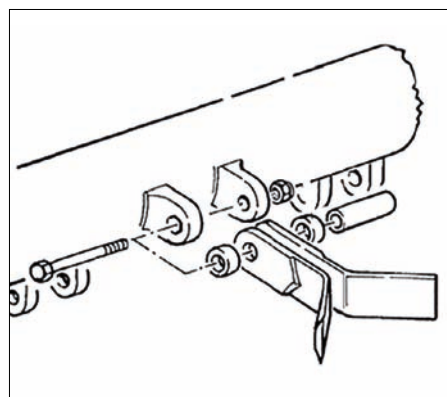

Fig. 7 Blade replacement
1. Everyday check the bolts for tightness and the blades for wear and breakages (Fig. 7).